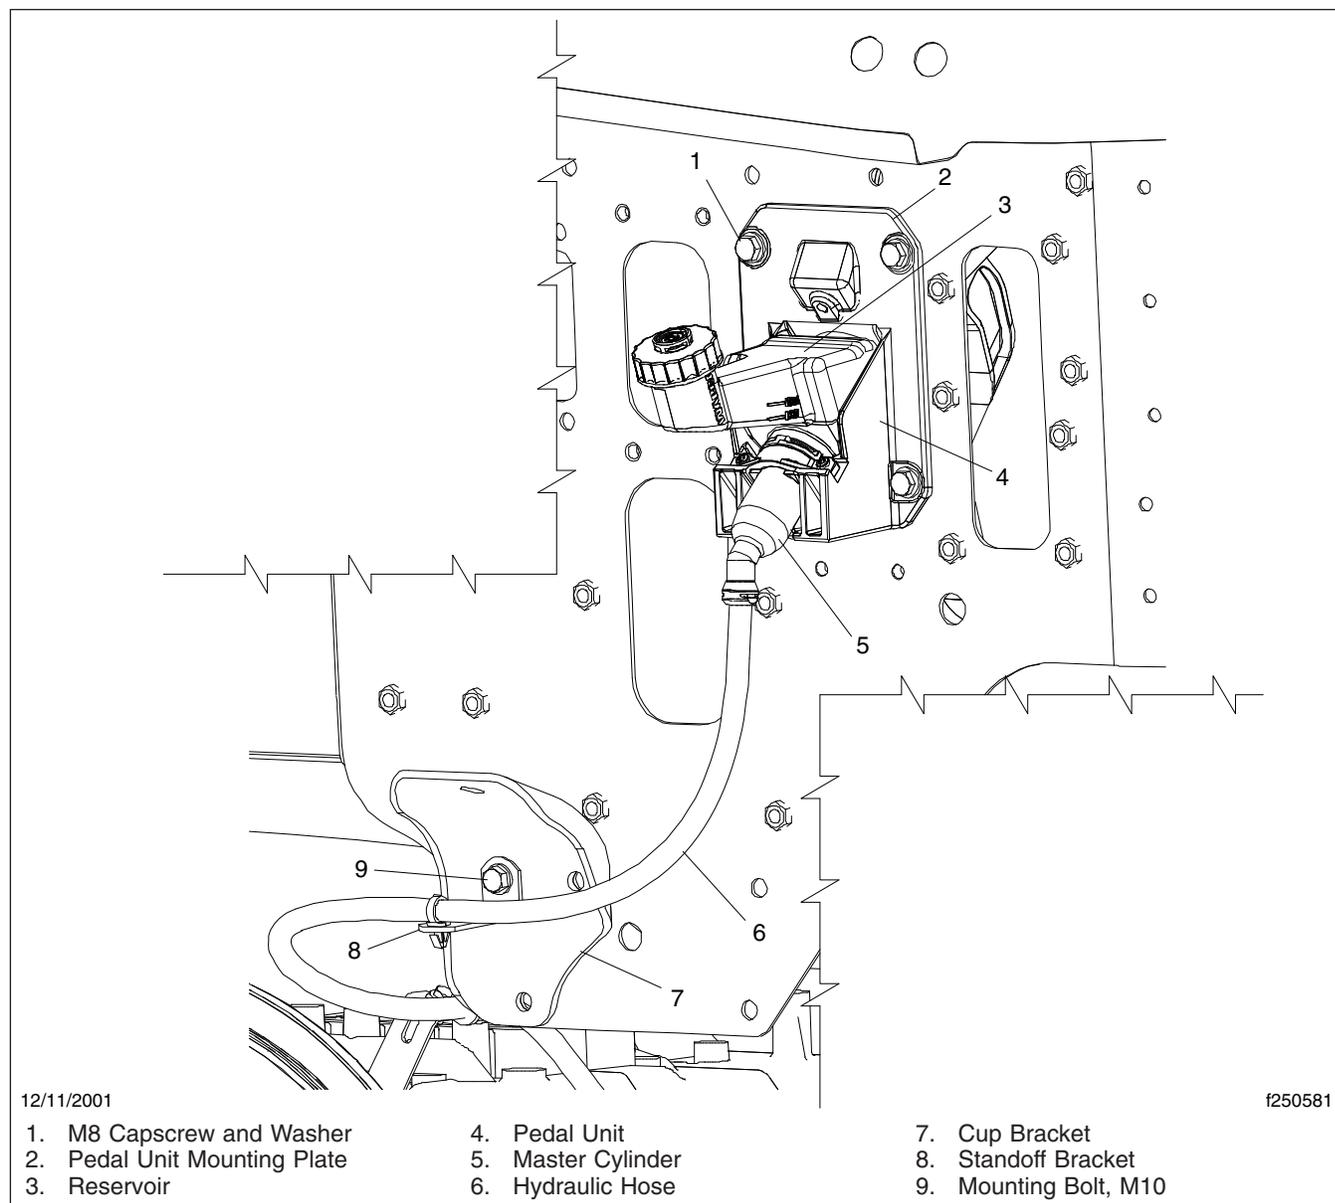

Fig. 7, Clutch Master Cylinder
7. Check the fluid level in the reservoir and bleed the system according to the procedure under the heading "Bleeding the Clutch." See Fig. 7.